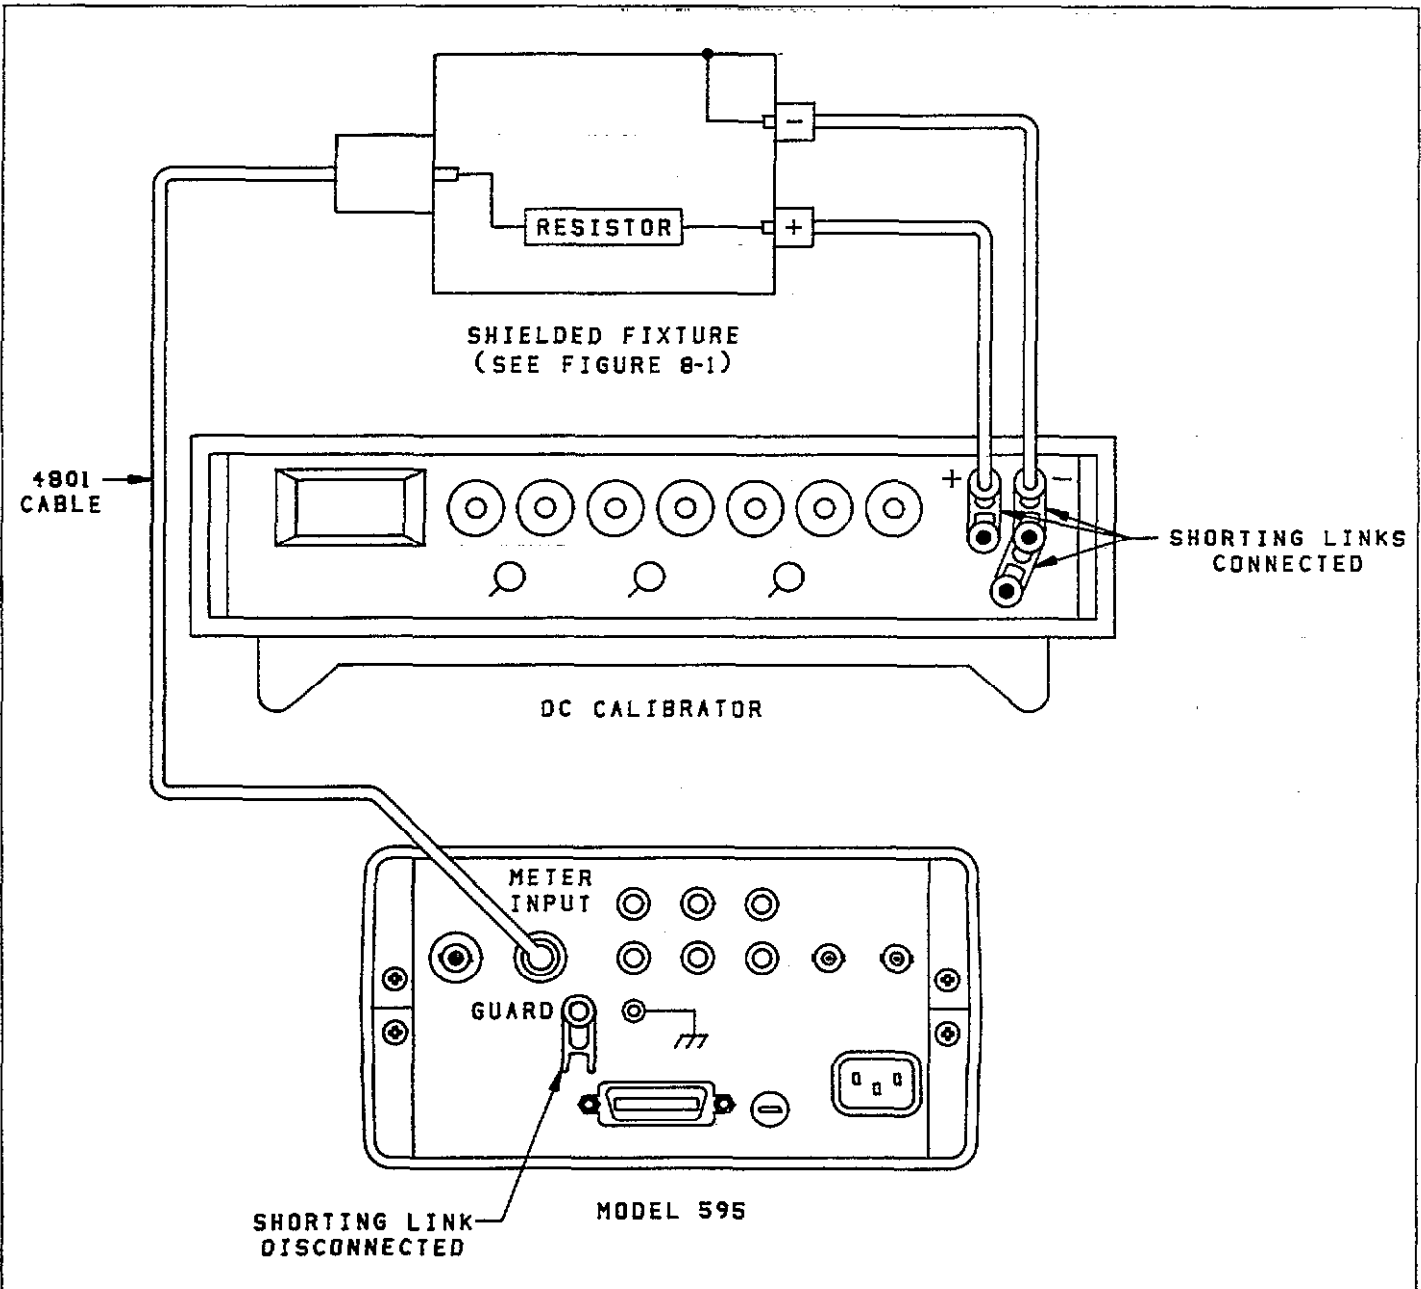

Figure 8-6. Current Calibration Setup (200pA and 20nA Ranges)
- Connect the DC calibrator and 10GΩ resistor to the Model 595, as shown in Figure 8-6. Note that the resistor is to be placed in a shielded enclosure, as shown on the diagram. (See Figure 8-1 for recommended shield).
5. Connect the current source to the Model 595 as shown in Figure 8-6. Note that the 10G Ω resistor must be installed in the test fixture.